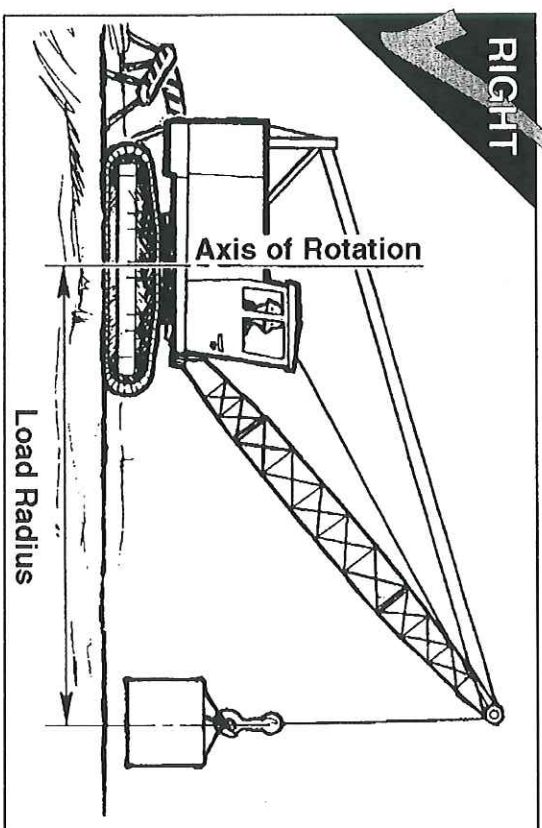

FIG. 20
- **The hoist line** is vertical before starting to lift. (FIG. 20)